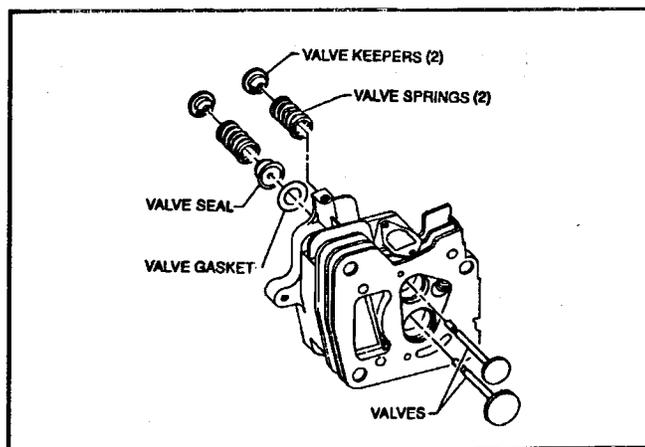

Figure 59
4. Note the seal and washer that is used on the intake valve. See Figure 59. The seal will help prevent oil from entering the combustion chamber through the intake valve guide.